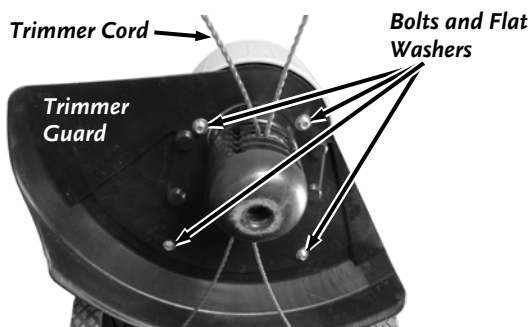

Figure 31
3. Remove the four Trimmer Guard Bolts and Flat Washers with a 3/8" Wrench. Remove the Trimmer Guard (**Figure 31**).
21. Position the Trimmer Guard and secure with the four Bolts and Flat Washers using the 3/8" Wrench (**Figure 31**).